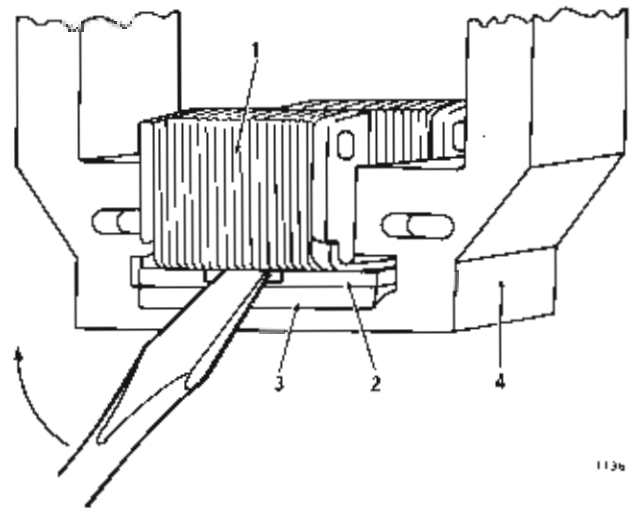

Figure 5-32. Removal of Magnet Yoke (Allen-Bradley Contactor)
To remove the magnet armature (1, Figure 5-32) from the movable contact support (4), insert a screw driver into the slot of the retainer (2), lift the screw driver and at the same time, push the magnet armature out. The retainer spring (3) will then slide out.